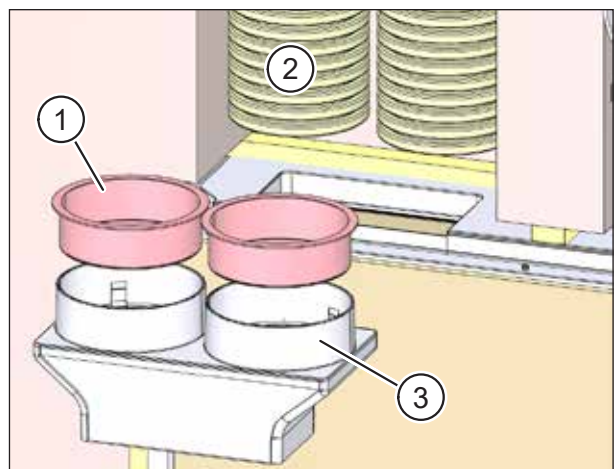

Fig. 28: Cutting flexible pipes to length
- ▶ Remove the red protective cover (item 1 in Fig. 28) from the flexible pipe connection (item 3 in Fig. 28).
- ▶ Shorten the flexible pipes (item 2 in Fig. 28) so that the flexible pipe connection (item 3 in Fig. 28) with the flexible pipes inserted can be pushed into the opening on the wall box.